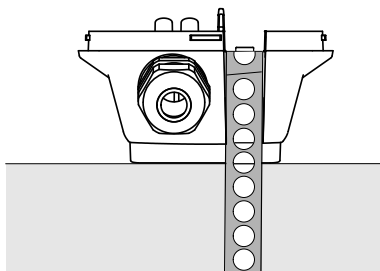

Figure 1 Placement
3. Place the sensor according to *Figure 1* and use the metal strap to fasten it around the pipe.